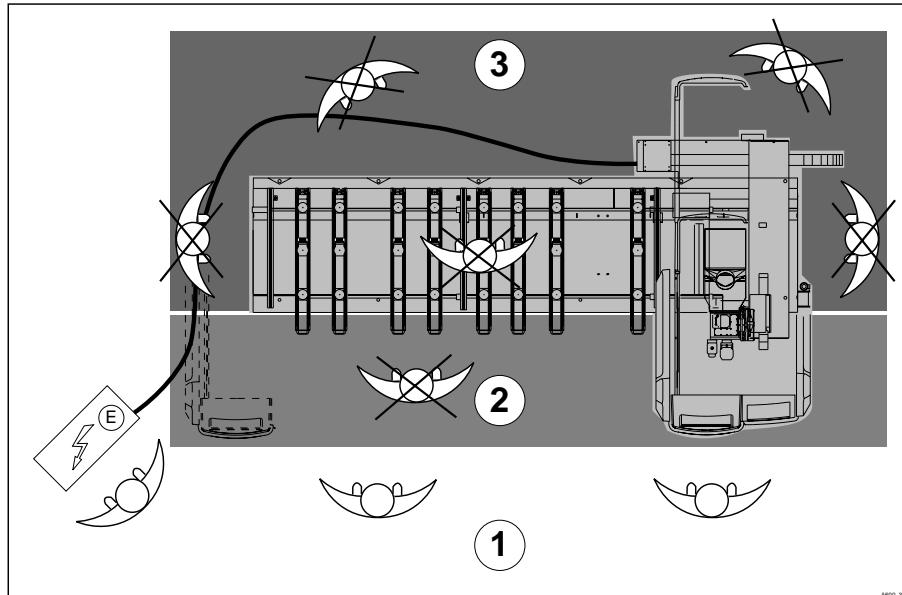

Fig.1.1
- Always work from the front of the machine (See Fig. 1.1).